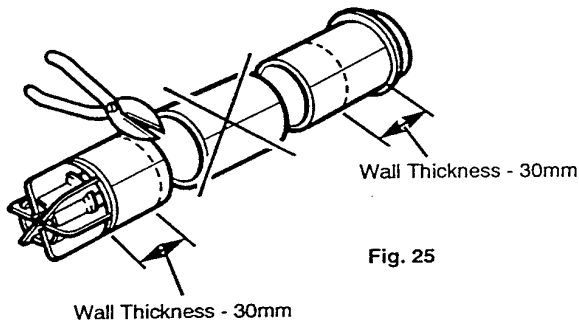

Fig. 25
4. **Wall Thickness 100mm - 280mm (4in - 11in)** if the wall thickness is less than 280mm (11 in), it will be necessary to cut the components of the air duct to the appropriate size. Dispose of the centre section, as this is not required (Fig. 25).
5. Measure the wall thickness and subtract 30mm ($1\frac{3}{16}$ in) from this dimension. Cut the remaining sections to this length, measuring from the positions indicated in the diagram (Fig. 25).